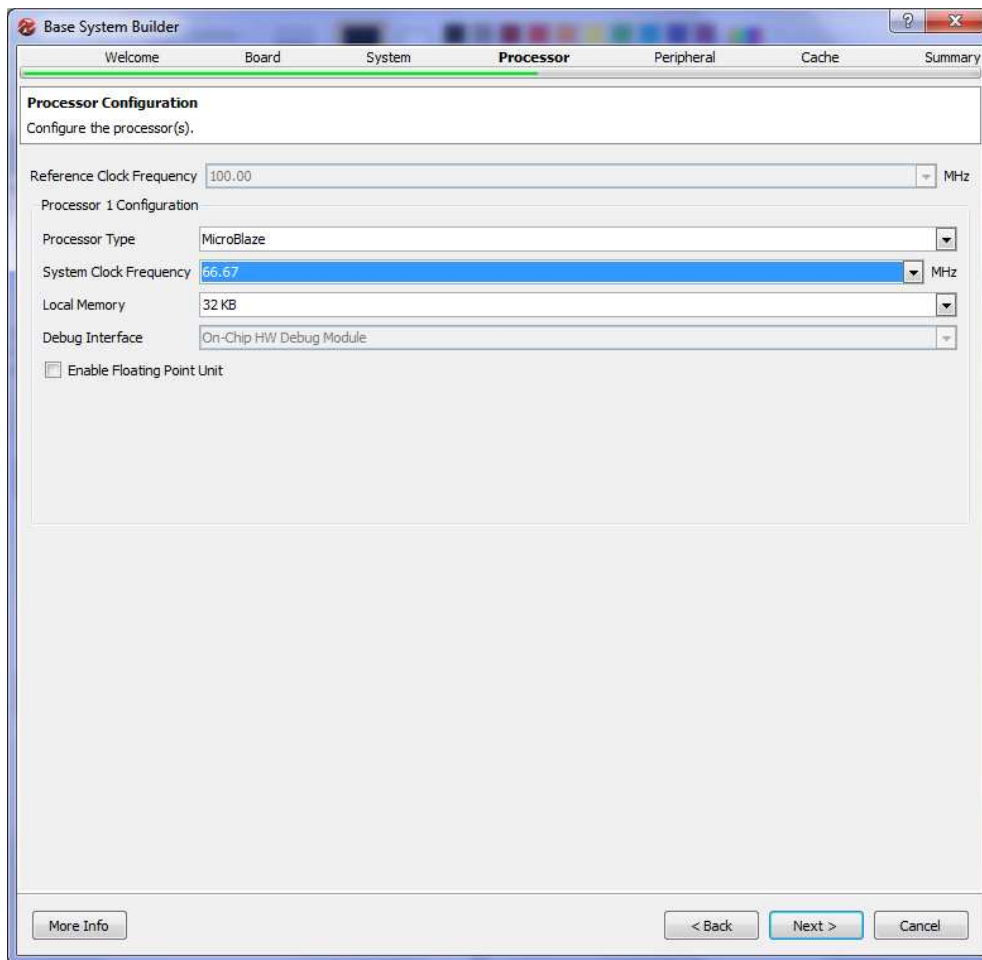

Figure 7. Processor Configuration (Step 7)
Select **“Single Processor System”**. This will start building a single processor system. We choose to build a single processor system as this is simple to develop. However, you can later add more processors if required. When done press **“Next”** to move to the next screen shown in Figure 7.
Step 7: The processor configuration screen is shown in Figure 7. As stated earlier, Xilinx provides a processor called MicroBlaze that can be implemented on its FPGAs. In this screen we configure the processor as follows: